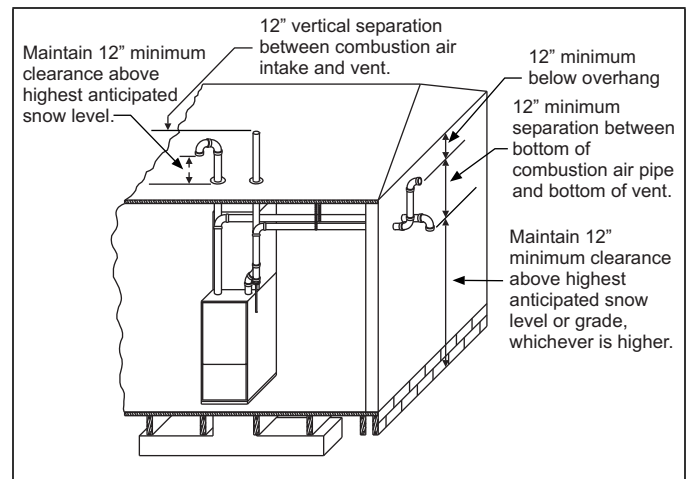

FIGURE 24: Termination Configuration - 2 Pipe
7. Direct vent systems must be installed so the vent and the combustion air pipes terminate in the same atmospheric zone. Refer to Figures 24 or 25.